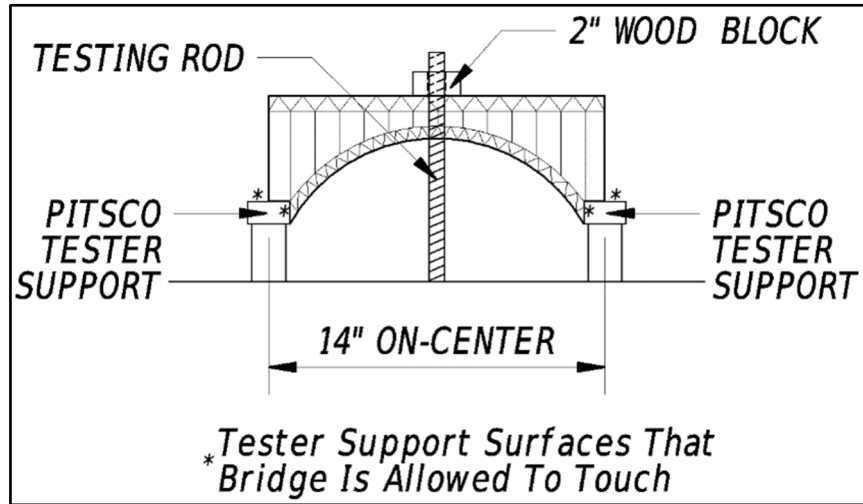
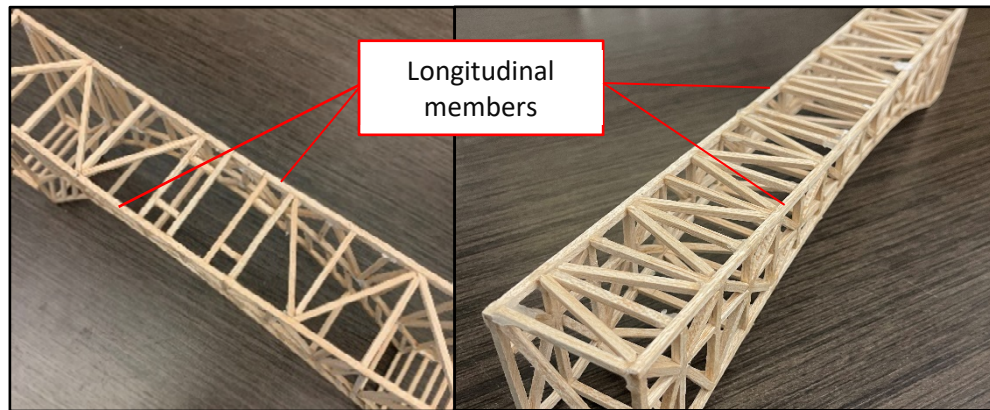

Figure 6. Tester Configuration Detail
Figure 8. Acceptable cross framing
- e) End to end, the length of the entire bridge must be 14 inches, refer to Figure 6.
- g) The area where the bridge will be loaded (center of the bridge) must have at least a  $\frac{3}{4}$ -inch hole to allow a  $\frac{5}{8}$ -inch testing rod to pass through. The rod must also be able to pass through full height of the structure to insert the rod into the tester. This is required to attach the rod to a 2-inch x 2-inch block of wood used for strength testing by the Pitsco Tester. An example configuration can be seen in Figure 6. The block of wood must be able to be pushed across the top surface of the bridge (a bridge deck of any kind is not allowed). No more than 2 longitudinal members will be permitted in the top of the bridge structure (refer to figures 8 & 9 for more detail). Please note, diagrams do not represent the required design and shall only be used for reference.
- h) Tester supports will be placed at 14 inches on center. Support dimensions are shown above in Figure 6.